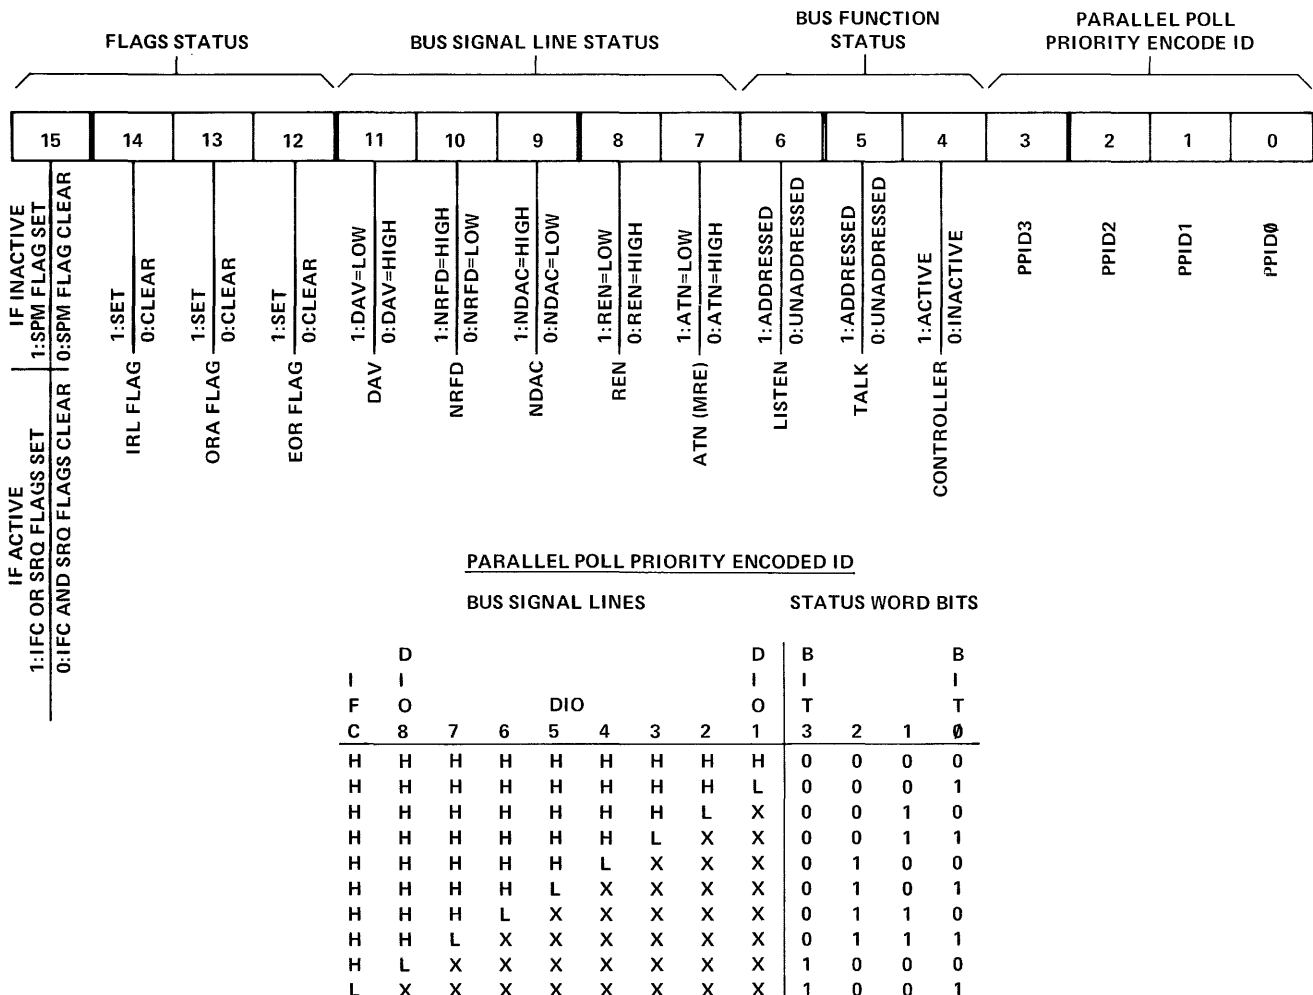

Figure 5. Status Word Format
The status word is a sixteen (16) bit word (Fig. 5) which is input under program control to obtain information about the operating conditions of the 59310A and the HP-IB.